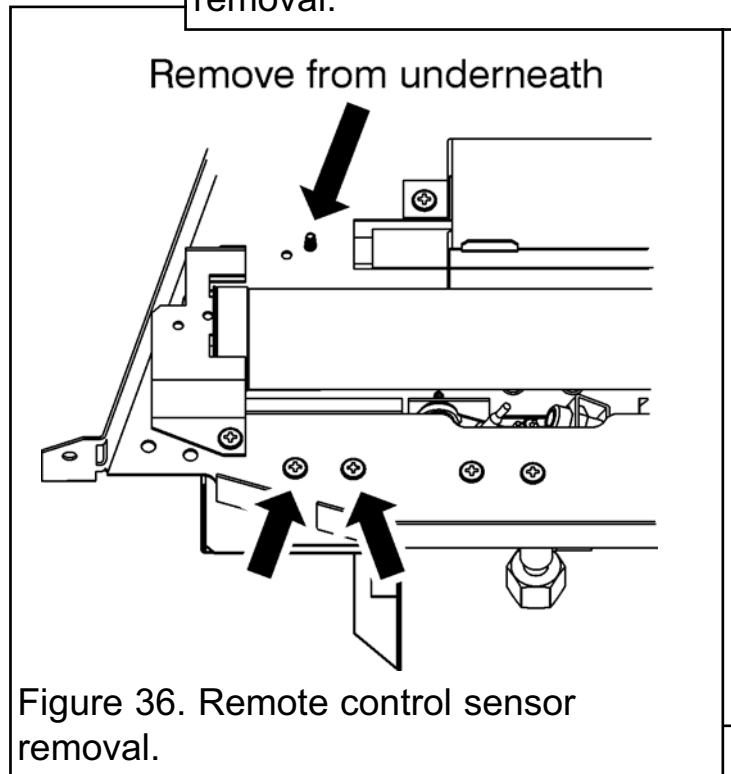

Figure 36. Remote control sensor removal.
3. Unscrew and remove the three screws securing the remote control receiver bracket to the underside of the burner tray (See figure 36).